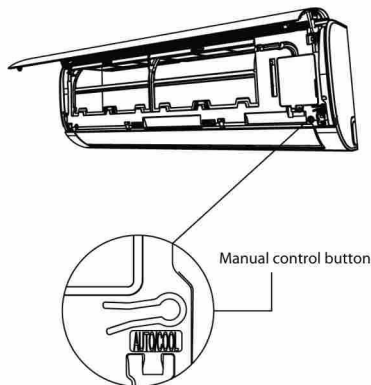

Fig. 8.1
2. The MANUAL CONTROL button is located on the right-hand side of the unit. Press it 2 times to select the COOL function. See Fig.8.1